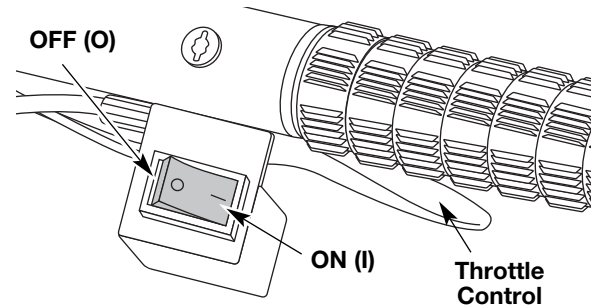
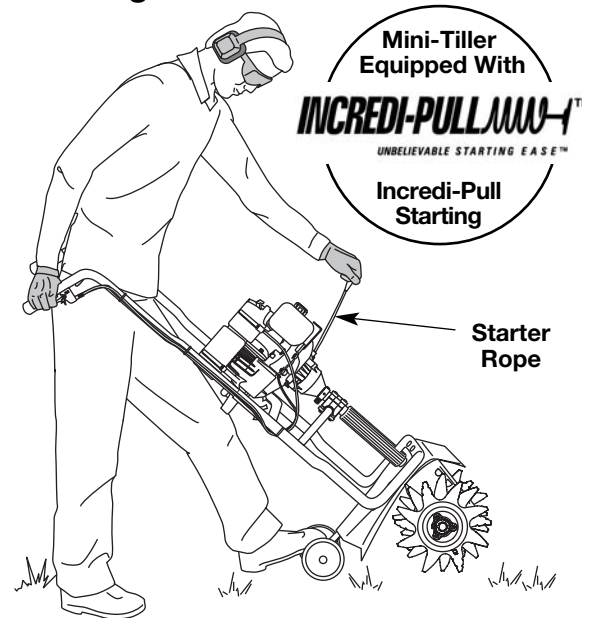

Fig. 7
Fig. 9
2. Put the ignition switch in the **START (I)** position (Fig. 7).
5. While squeezing the throttle control (Fig. 7), pull the starter rope out with a **controlled and steady motion** 1–5 times (Fig. 9).
7. While squeezing the throttle control (Fig. 7), pull the starter rope with a **controlled and steady motion** to start the engine (Fig. 9).
9. Once the engine is warmed up, place the choke lever in **Position 3** (Fig. 9). Release the throttle control to the idle position and begin operation.
IF... the engine hesitates, return choke lever to **Position 2** (Fig. 9) and continue warm up.